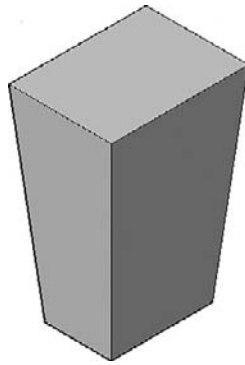

FIGURE 25.17
Step 6. This final request asks for the amount of taper in degrees. Enter a small value, perhaps 4 or 5, and press Enter. The block tapers evenly on all sides. The result in shade mode is shown in Figure 25.17.